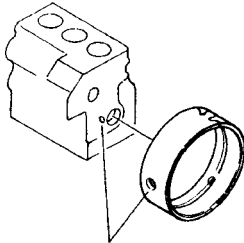

Fig. 75. Marking up of oil hole
3. Draw a line over the hole in the block and bushing with a marker pen (Fig. 75). Oil in the outside of the bushing and its mating surface in the block.